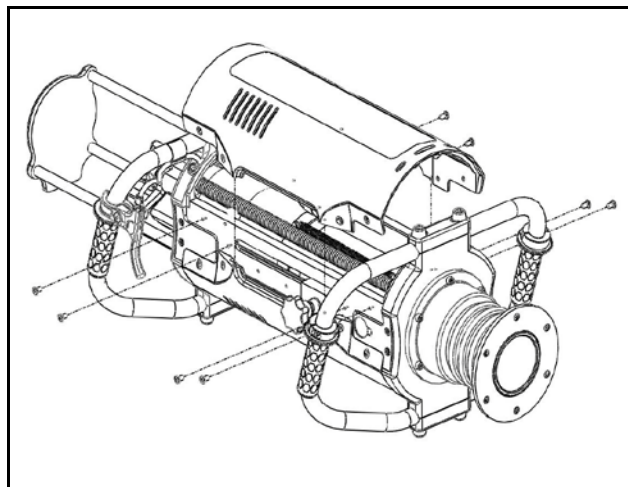

Figure 15 – Main Body Covers
1. Remove the eight (8) screws holding each of the two Main Body Covers. Remove the covers from the CIRT (see Figure 15).
2. Reinstall the Covers one at a time. Avoid pinching cables by tucking them inside the side rail. Start all eight (8) screws holding one cover on before tightening them gently. Repeat the procedure on the other cover.